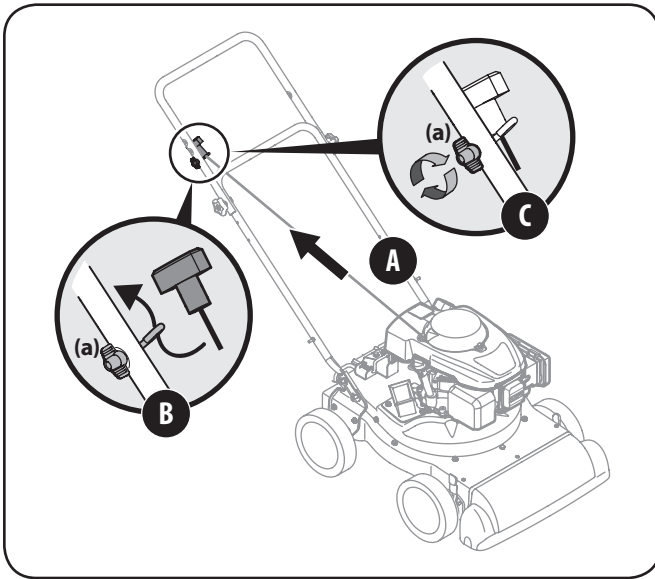

Figure 3-3
- c. Tighten the wing nut (a). See Figure 3-3.